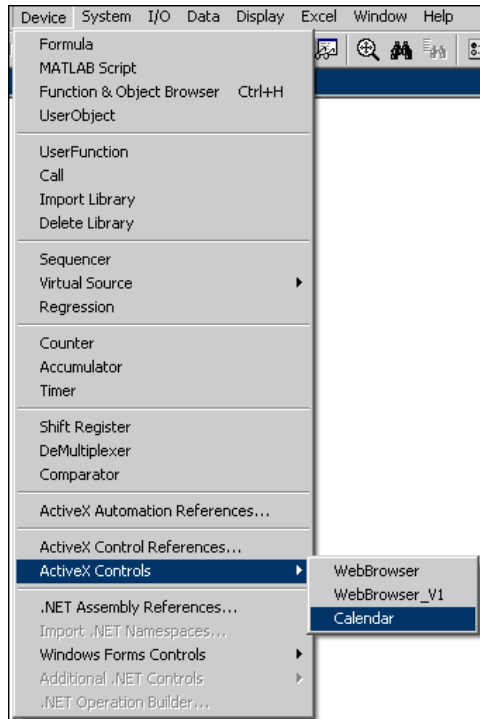

Figure 2-5 Selected ActiveX Device (Calendar)
- 1 Select Menu Bar => Device => ActiveX Controls => Calendar; see Figure 2-5.